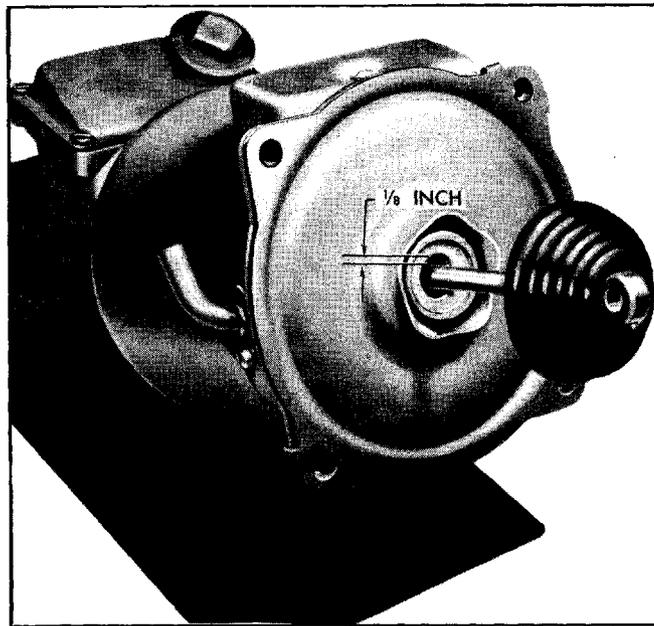

Fig. 5-34 Clearance Between Push Rod and Plunger
6. Pull rubber boot back from vacuum cylinder so that push rod can be observed where it enters vacuum cylinder. There should be approximately  $\frac{1}{8}$ " clearance between push rod and bore of plunger at top or 12 o'clock position with brake pedal released (Fig. 5-34). If improper clearance is noted, loosen brake pedal pivot bracket and shift slightly to obtain clearance. **NOTE:** If clearance cannot be obtained, check for bent push rod or bent mounting plate.